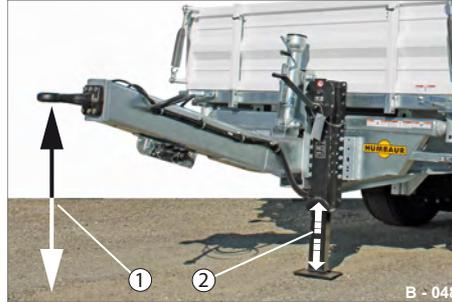

Fig. 49 Height equalisation/alignment
- ▶ If necessary, correct the position of the tube drawbar (Fig. 49/1) using the spindle support (Fig. 49/2).